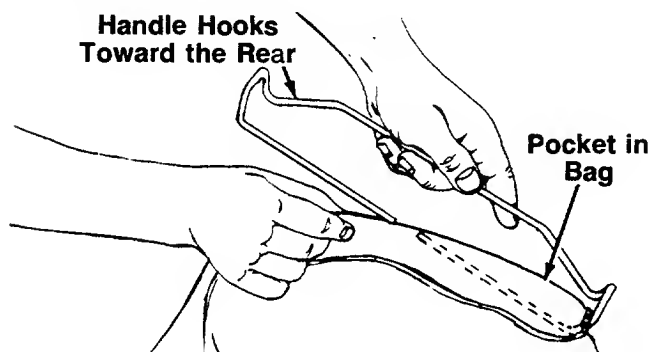

FIGURE 14.
3. Attach the rear handle to bag by inserting one side of handle into pocket on the rear of the bag. The handle should hook toward the rear of the bag as shown in figure 14. Thread all the material onto one side, then slide it over onto the other side. See figure 14.